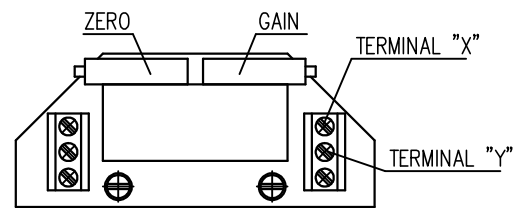

Fig.7
1.2.1. EPV – 3-wire version (Fig. 7)
- Adjust the resistive transmitter according to the previous chapter. The resistance is to be metered on the terminals X-Y (Fig. 7). The used transmitter resistance is 2000W or 100 W.
- Turn the adjusting trimmer ZERO (Fig. 7) to adjust the output current signal rate measured on the terminals 81-82 to 0 mA or 4mA.
- Turn the adjusting trimmer GAIN (Fig. 7) to adjust the output current signal rate measured on the terminals 81-82 to 20mA or 5 mA..